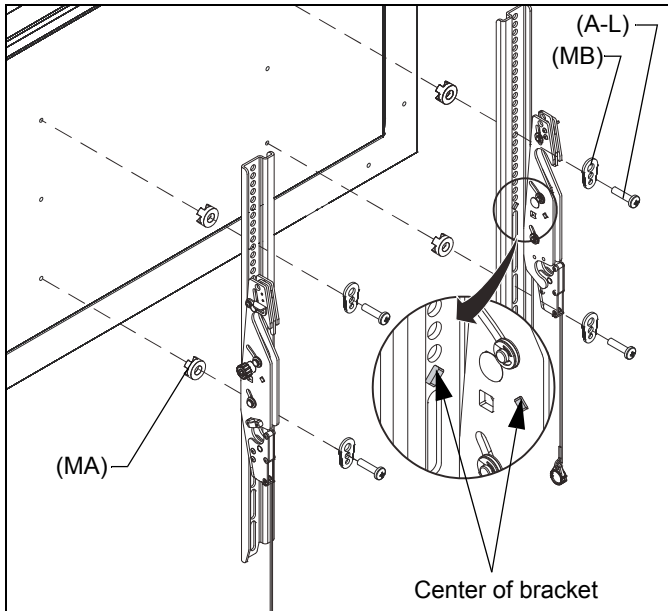

Figure 5
1. Align the center of the bracket (X and Y) with center of screen. (See Figure 5)
2. Select correct screws, nesting spacers (if necessary) and universal washers from the hardware bag (A-M) and attach brackets to back of screen. (See Figure 5)